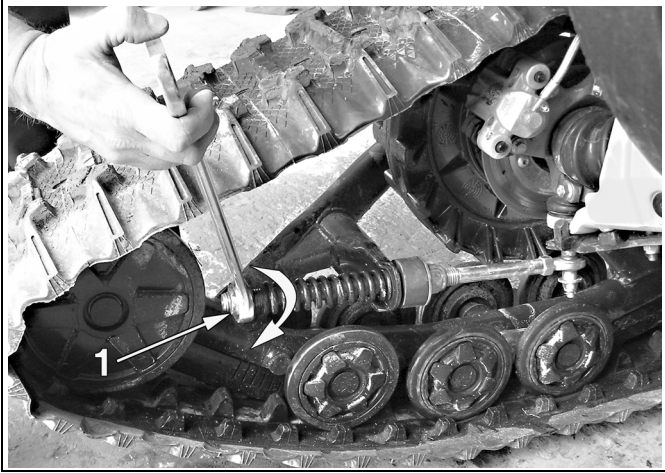

Figure 6
- Turn the nut (1) until it comes in contact with the spring, then compress the spring by turning this nut 1.5 turns (refer to Figure 6).
- Loosen the nut (1) compressing the spring of the stabilizing rod (see Figure 6).
- Set the nut (2) to obtain a distance of 3/8 inch (10 mm) as shown.
- Turn the nut (1) until it comes in contact with the spring, then compress the spring by turning this nut 1.5 turns.
- Loosen the nut (1) compressing the spring of the stabilizing rod (refer to Figure 6).
- Turn the nut (2) until it comes in contact with both rubber damper and bracket (3). Then, compress the rubber damper by turning the nut (2) one turn.
- Turn the nut (1) until it comes in contact with the spring. Then compress the spring by turning this nut 1.5 turns.